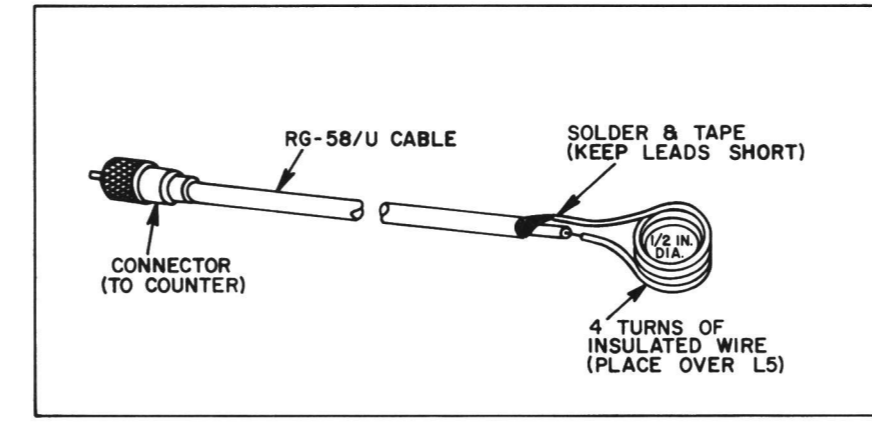

Figure 4 - Coaxial Cable and Test Loop
- Coaxial cable with test loop as described in Figure 4.
- Connect the frequency counter to L5 (on the OSC/MULT) using the 4-turn test loop and cable shown in Figure 4.